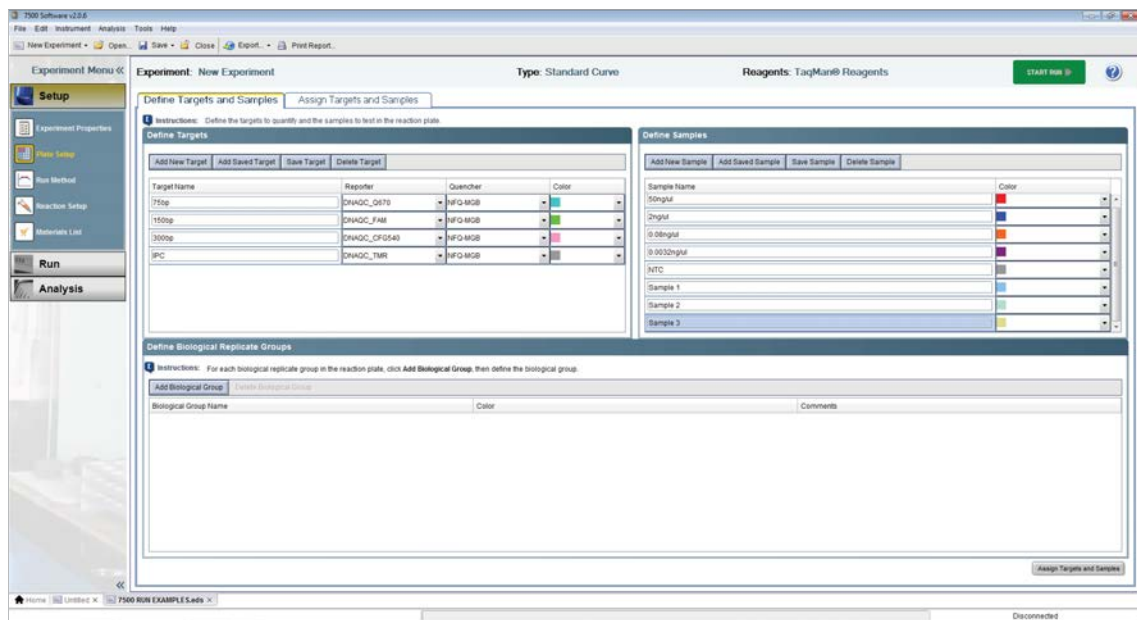

Figure 2. The Plate Setup screen.
- Select “Plate Setup” from the Setup menu in the left panel. Select the “Define Targets and Samples” tab. Click three times on “Add New Target” (Figure 2), and enter the following information to specify the targets:
- Under Plate Setup from the Setup menu in the left panel, select the “Define Targets and Samples” tab. Click “Add New Sample” (Figure 2), and enter a Sample Name. Repeat for each sample to be assayed.